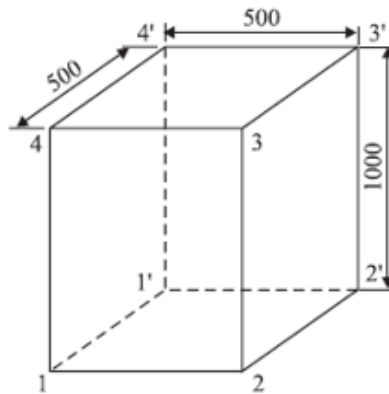

Fig. 5.5. Welded water tank
**Example 3:** A container open on one side of size 0.5 m × 0.5 m × 1 m is to be fabricated from 6 mm thick plates Fig. 5.5. The plate metal weighs 8 gm/cc. If the joints are to be welded, make calculations for the cost of container. The relevant data is: